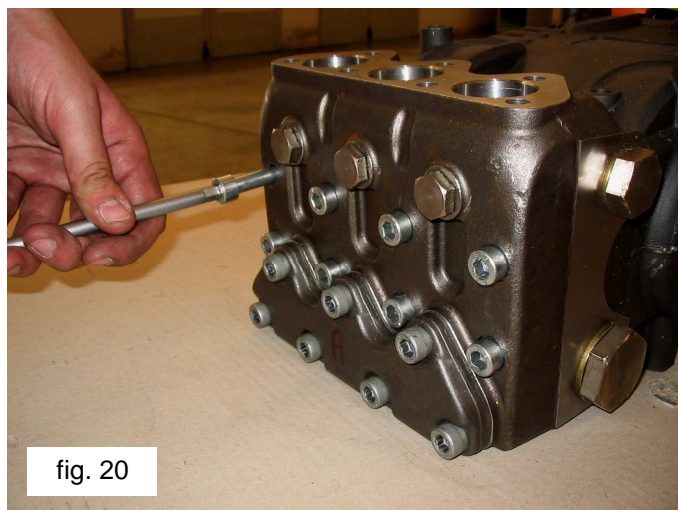

fig. 20
A) Unscrew the M10x110 head fixing screws as indicated in fig. 20.